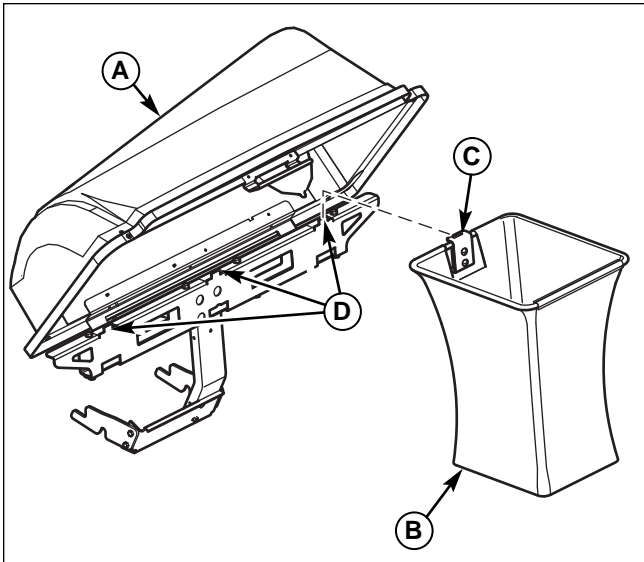

Figure 13. Install Collector Bags
1. Raise the cover (A, Figure 13).
2. Attach collector bags (B) using grass bag hanger (C) to bag hanger post (D).